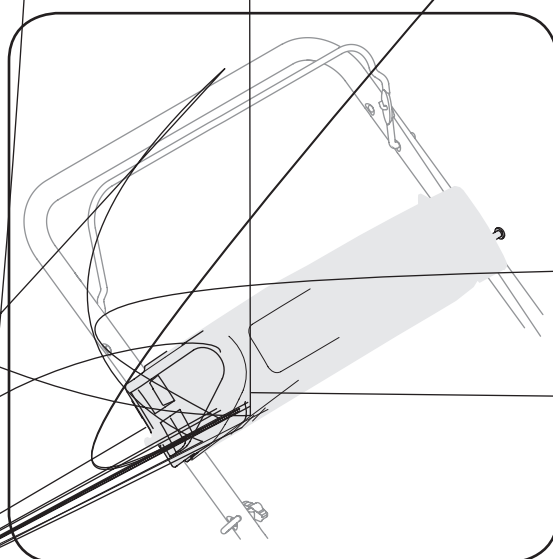

Figure 5-8
1. Plug the battery charger into the port on the underside of the battery housing, Figure 5-8.
2. Insert the battery charger plug into a standard 120 volt household outlet. See Figure 5-8. Charge battery for 8 to 10 hours before initial use. **Do not charge longer than 12 hours.** The battery should only need to be charged upon initial setup and after any other extended periods of non-use.